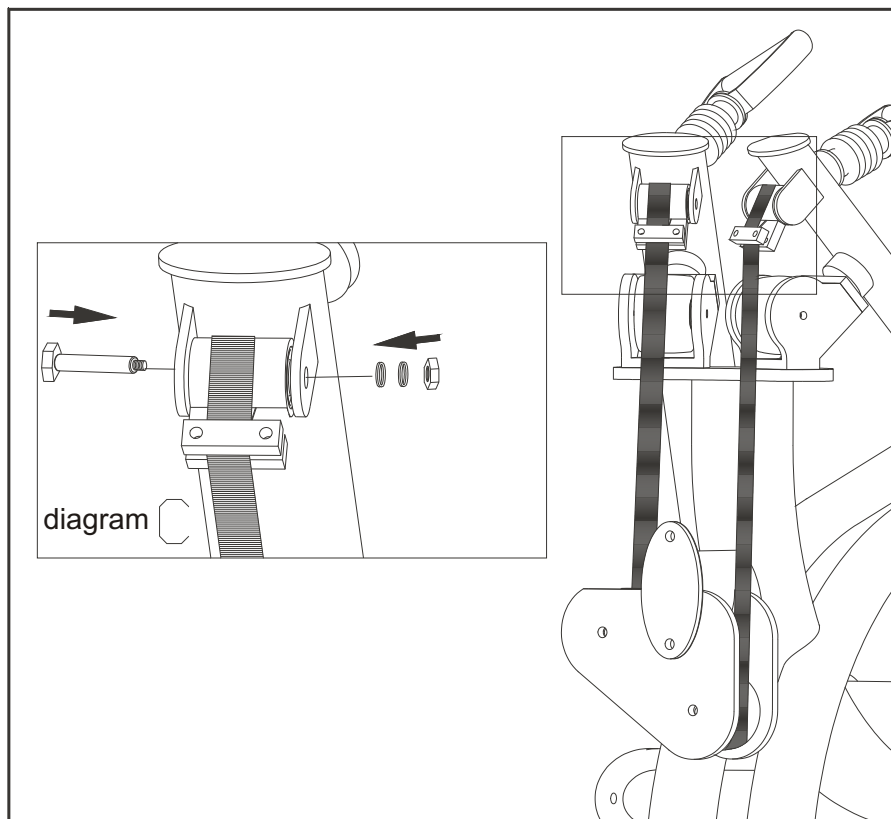

Fig.4-2
7. Connect the belt and wheel as shown in diagram C. (See Fig.4-2)